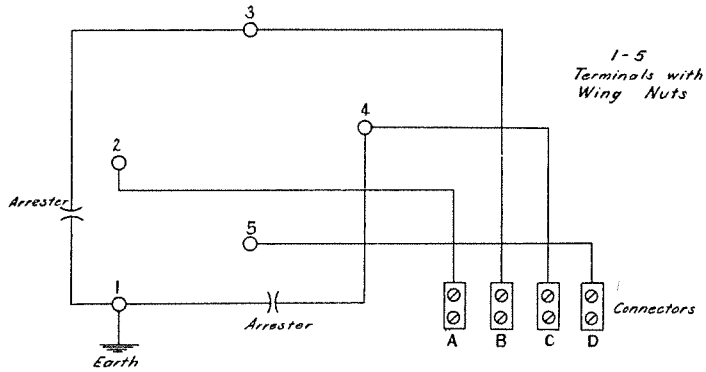

Fig. 24.
77. When used for a branch line, connect as follows (refer to Fig. 24):—